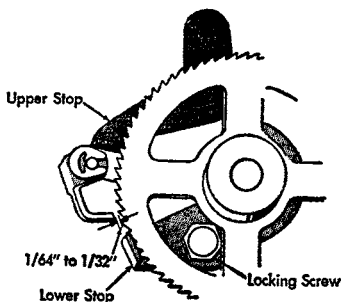

Figure 39. Upper Pawl Stop Adjustment
5. UPPER PAWL STOP. Adjust so that when the backspace pawl is at rest it will clear the ratchet teeth by $\frac{1}{64}$ " to $\frac{1}{32}$ " (Figure 39).